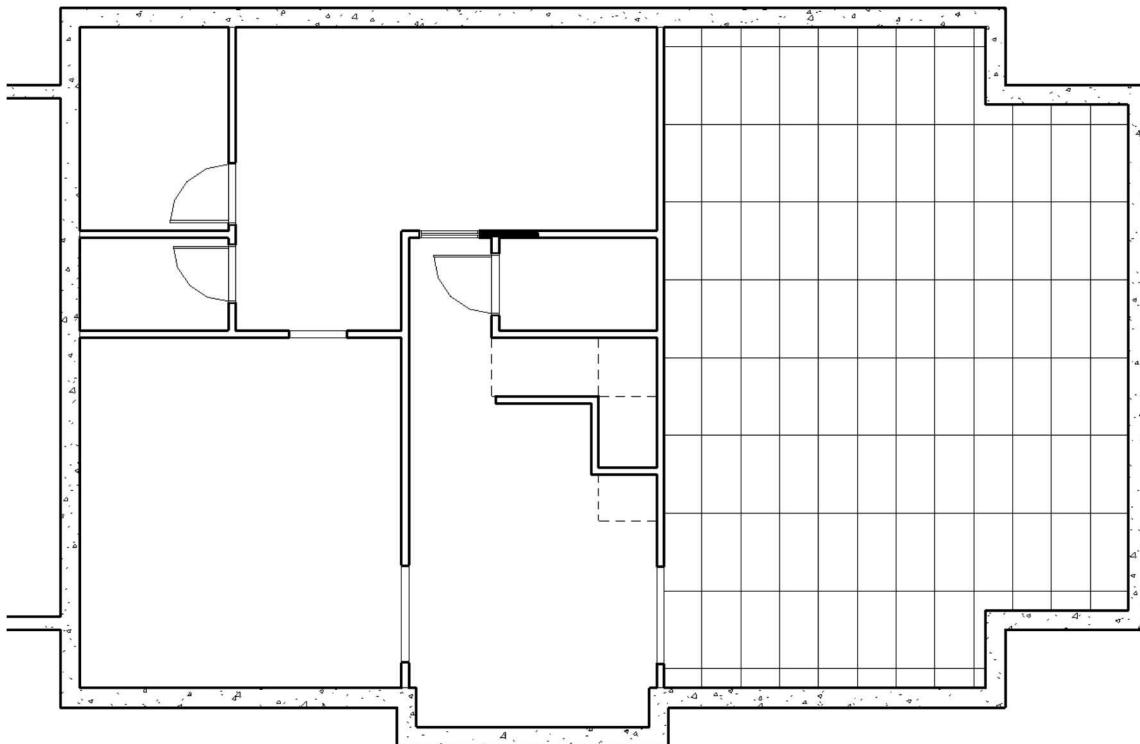

FIGURE 9-2.5: Basement Ceiling Plan view: 2'x4' suspended acoustical ceiling tile added to Family Rm.
12. Use the *Ceiling* tool to place 2'x 4' acoustic ceiling tile in the *Family Room*, the large room to the far East. See the following notes (Figure 9-2.5):
When you place a ceiling grid, Revit centers the grid in the room. The general rule-of-thumb is you should try to avoid reducing the tile size by more than half of a tile. You can see in Figure 9-2.5 that the East and West sides look OK. However, the North and South sides are small slivers. You will adjust this next.